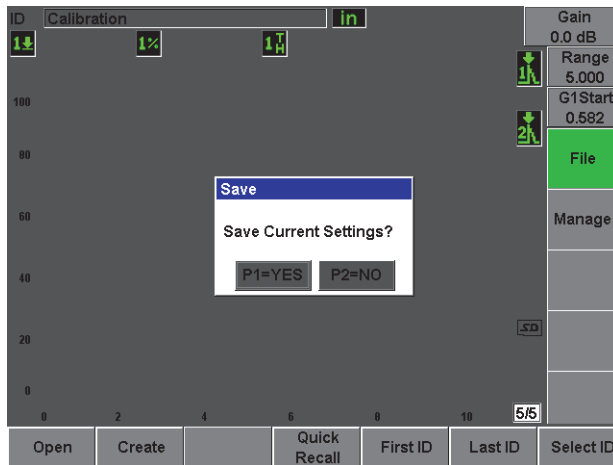

Figure 2-21 The Save dialog box
10. Press **Save** (see Figure 2-21 on page 54).